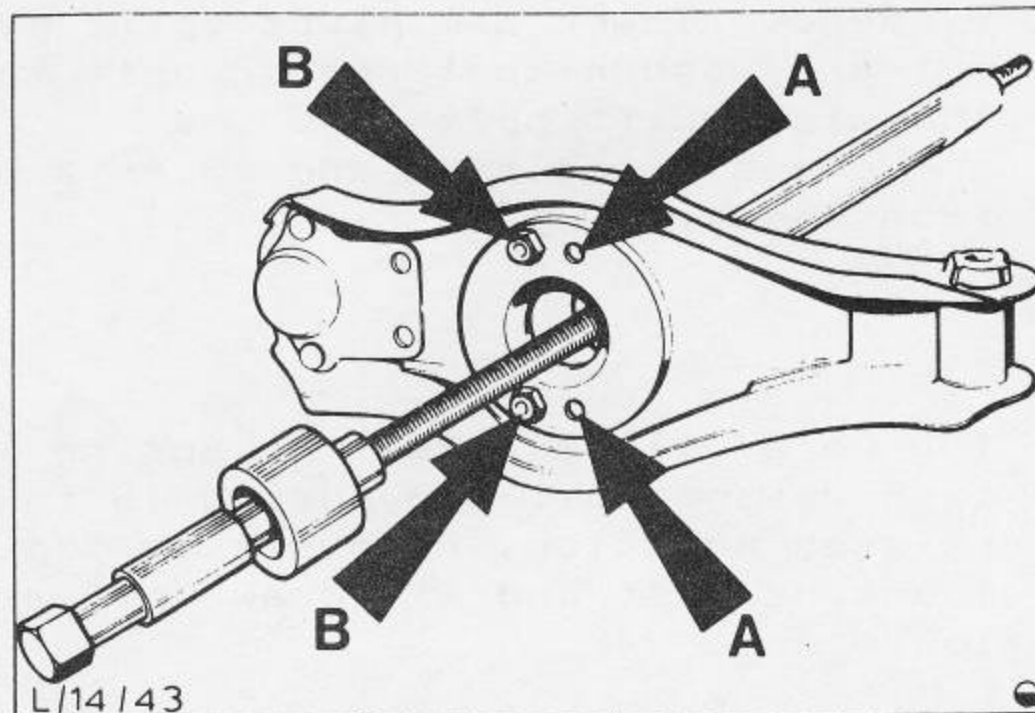

Fig. 29 Tool No.14-001 A plate showing location holes.
6. Fit the flat plate of the tool to the lower arm. Two of the four Fig.29 mounting holes in the plate are marked A. It is essential that the shock absorber mounting studs are in holes A. Loosely secure the plate with the shock absorber mounting studs and compress the spring by using a bar or socket to turn the hexagonal head of the tool.